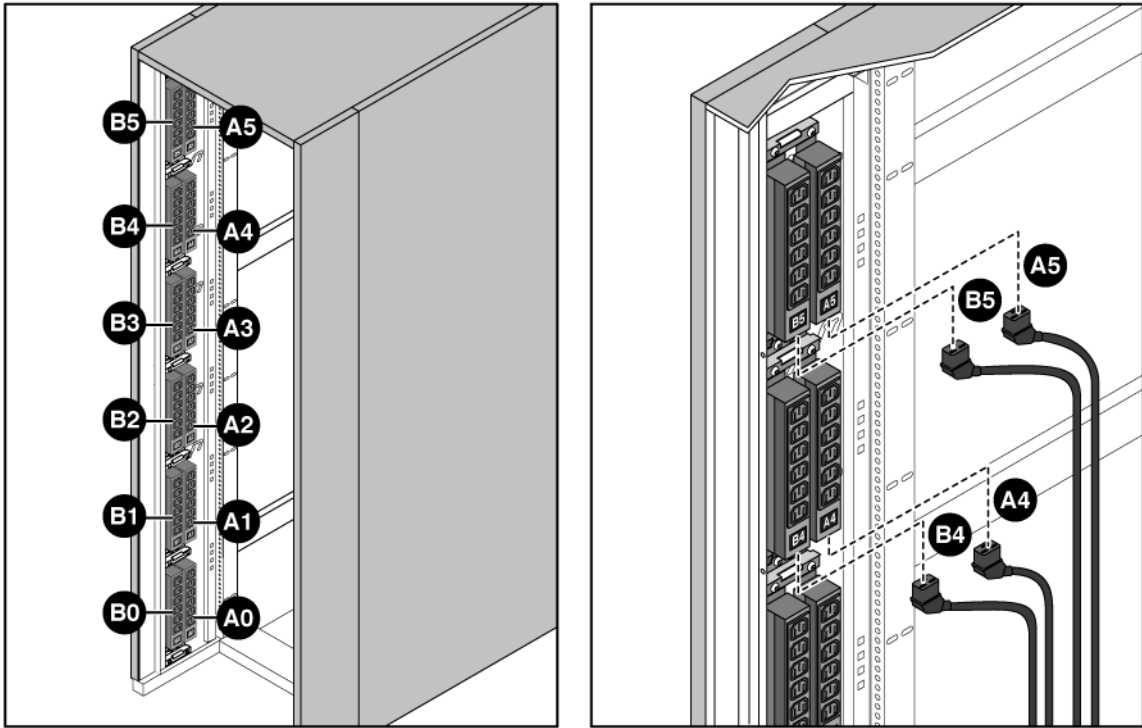

FIGURE 2-3 Connecting the Power Cables to the Power Strips
9. Press the power cables into the power strips (FIGURE 2-3).